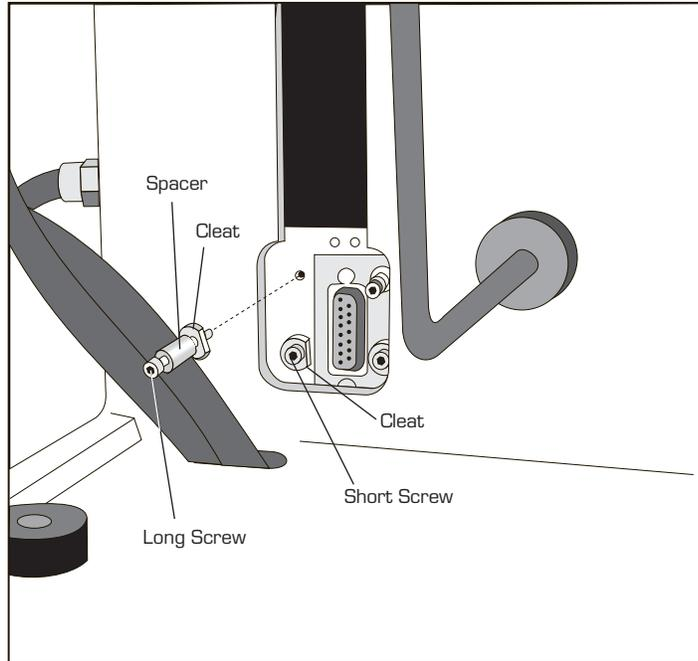

Figure D.3
7. Use the 3/32-inch ball driver supplied with the EGA installation kit to replace the screws with the new screws, spacers and cleats provided with the kit. Refer to Figure D.3. Replace the upper screws using the long screws with spacers and replace the lower screws using the short screws without spacers.